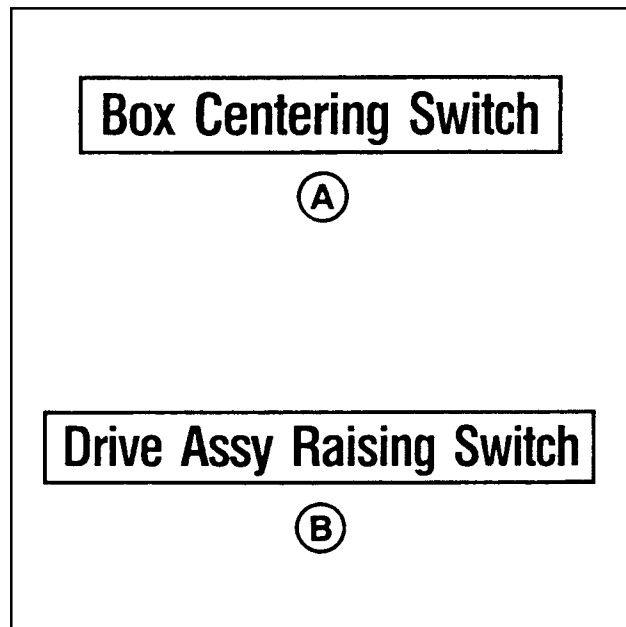

Figure 1-13 – Box Centering Switch and Drive Assembly Raising Switch Labels
The **"Box Centering Switch"** label (A), shown in **Figure 1-13**, is attached to the center plate on the machine bed at the infeed end. The label identifies the box centering switch.
The **"Drive Assembly Raising Switch"** label (B), shown in **Figure 1-13**, is located above the switch at the top/front of the upper drive assembly. The label identifies the drive assembly raising switch.